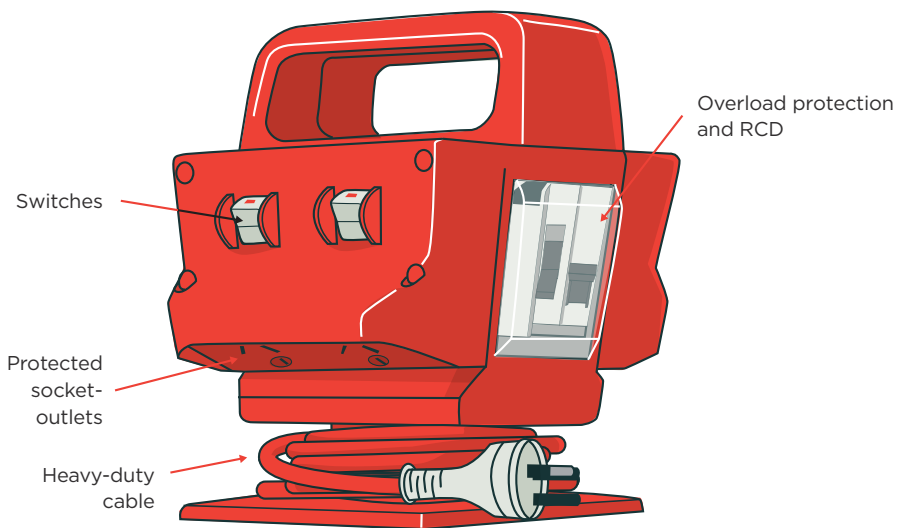

FIGURE 3: PSOA designed for harsh conditions
- Some are built into PSOAs (see Figure 3).